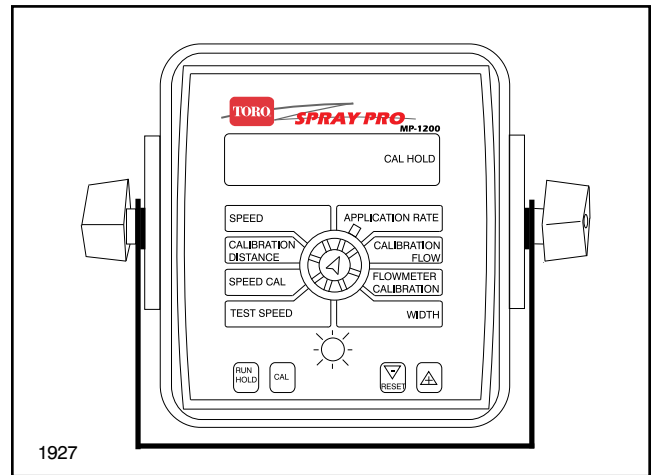

FIG. 6
4. While continuing to drive the vehicle and spraying with the monitor in the APPLICATION RATE position (see FIG 6), turn 1 of the 3 boom sections off with Individual Boom Valves and adjust Boom Bypass Valve, if required, to maintain the application rate from step 3 above. Boom Bypass Valves are located directly behind the Individual Boom Valves.